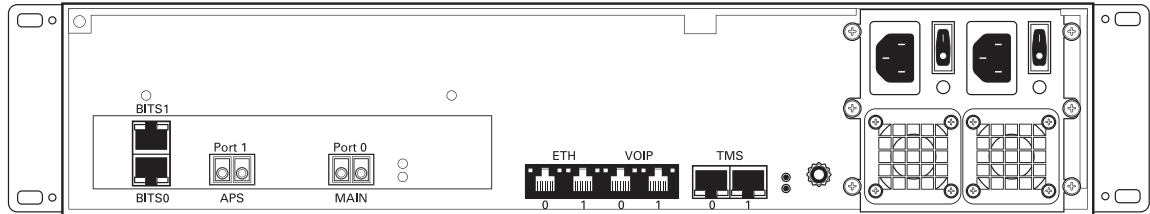

Figure 4.5 Optical Interface to the PSTN
A TMG7800-STM-1, with one main and one backup APS OC3 or STM1 port enables connection to OC3/STM1 lines. See figure 4.5 on page 31. The APS port is used for OC3/STM1 redundancy. Switchover occurs automatically based on configurable parameters. It is recommended that APS be used if the installation provides this feature.
1. Connect a fiber optic cable between the Port 0 (Main) port and OC3/STM1 line, as shown in figure 4.5 on page 31.